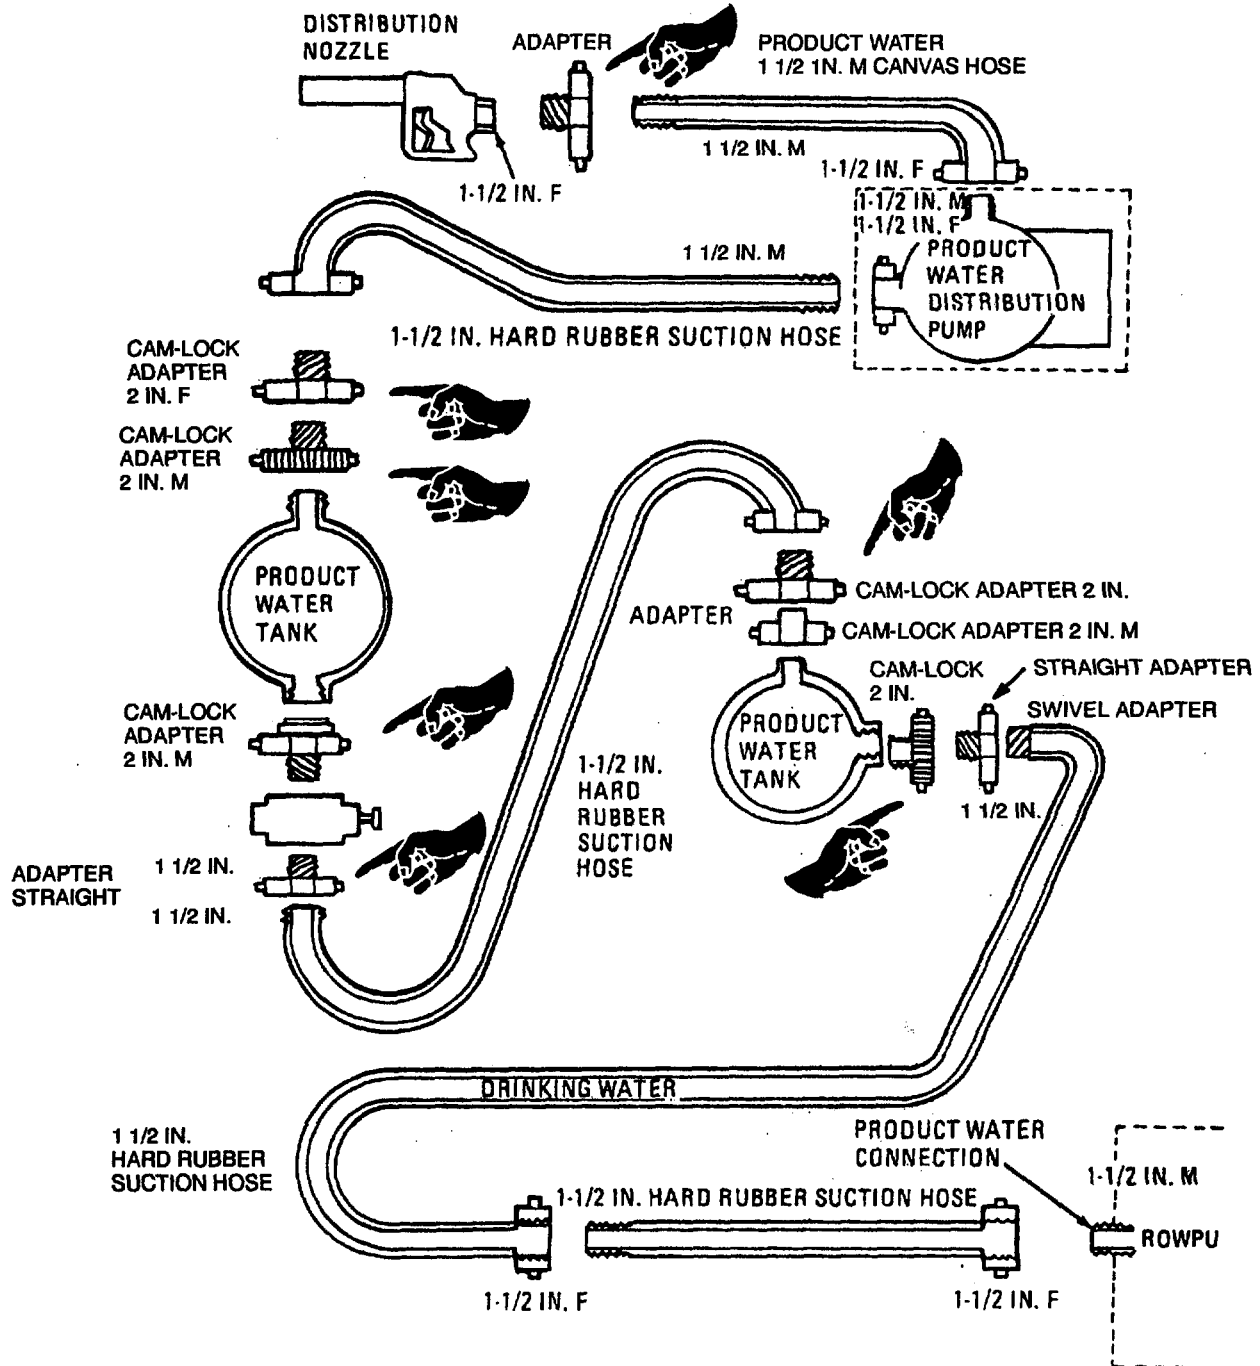

FIGURE 2-32. PRODUCT WATER SYSTEM
(16) Attach product water system hose (figure 2-32), working backwards from the distribution nozzle until last connection is made at the ROWPU.